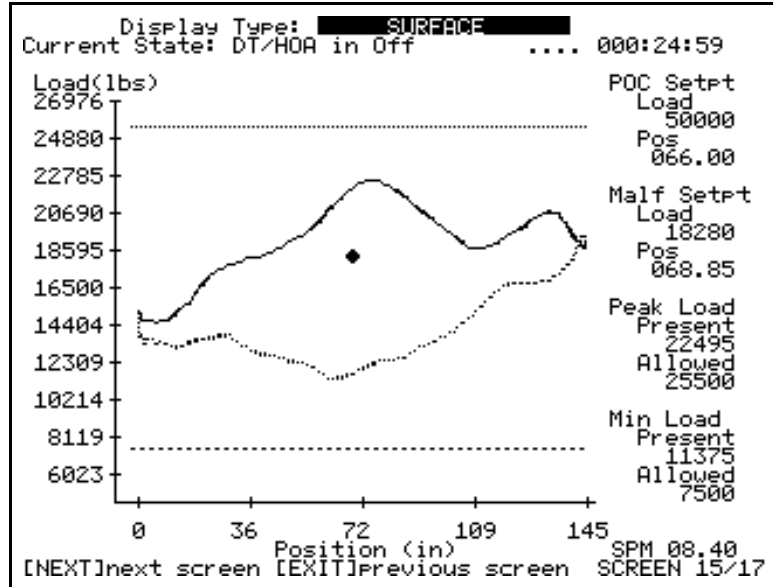

Figure 18-18. Surface Dynagraph Card Display Screen
- If the Surface or VFD-Surface control method was selected and a calibrated load cell is being used, a screen similar to Figure 18-18 (Start/Stop The Pump, page 18-19) displays.
After you press <NEXT>, a Surface Dynagraph Card screen similar to Figure 18-18 displays. You can use this screen to set the POC and malfunction setpoints (if those functions were enabled) and program the allowed peak and minimum load limits.